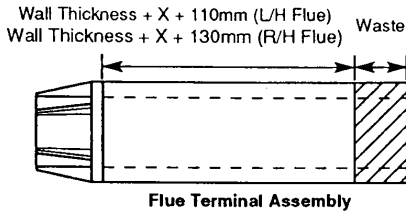

Fig. 41
5. Take the **Flue Terminal Assembly** the terminal end the dimension below (Fig. 41). Cut the waste off the plain end.